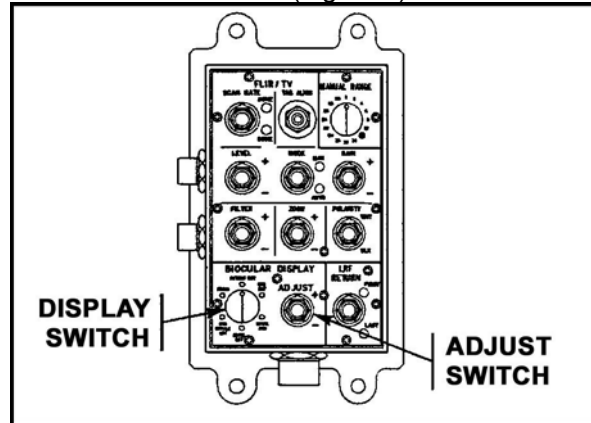

Figure 6. Gunner's sight control panel (GSCP) display and adjust switch.
- (2) Locate the MODE switch on the gunner's sight control panel (GSCP).
- (3) Pull down and release the MODE switch to AUTO ensure the indicator light for AUTO is lit.
- (4) Adjust sight picture, as necessary, using the LEVEL, GAIN, FOCUS, BRIGHTNESS, or CONTRAST switches on the GSCP (Figure 6).